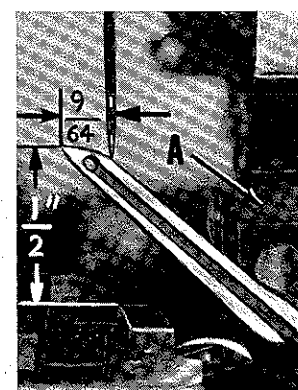

Fig. 10
Next, turn handwheel until upper looper is at the left end of its travel; check dimensions of upper looper point with respect to needle and throat plate (Fig. 10). If resetting is necessary, do it by moving the upper looper holder (A, Fig. 10). Figure 10 represents the dimensional setting.
If it becomes necessary to move looper thread pull-off (T) be sure to take up all end play in needle drive shaft before tightening. If upper looper is located so that it is higher over throat plate than recommended in (Fig. 10), the purl will tend to form near top edge. If upper looper is too low, the purl will form nearer bottom edge.